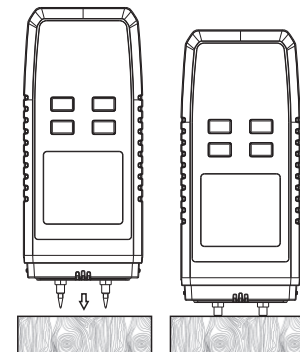

Figure 4
- 4.Insert the probe vertically into the wood to be measured. The insert depth is shown as Figure 4.